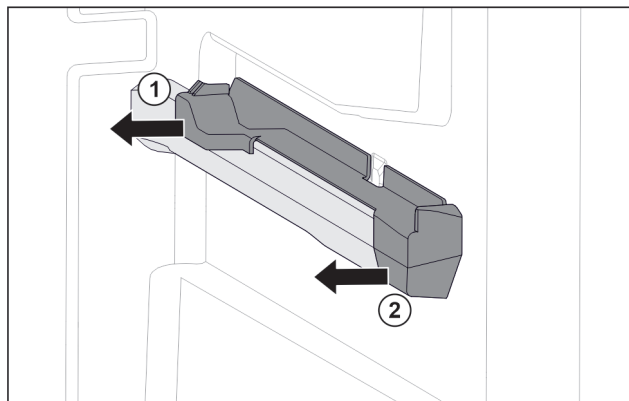

Fig. 75 Attachment on the right moulded rib
- ▶ Pull off attachment at the back sideways. *Fig. 75 (1)*
- ▶ Pull off attachment at the front sideways. *Fig. 75 (2)*